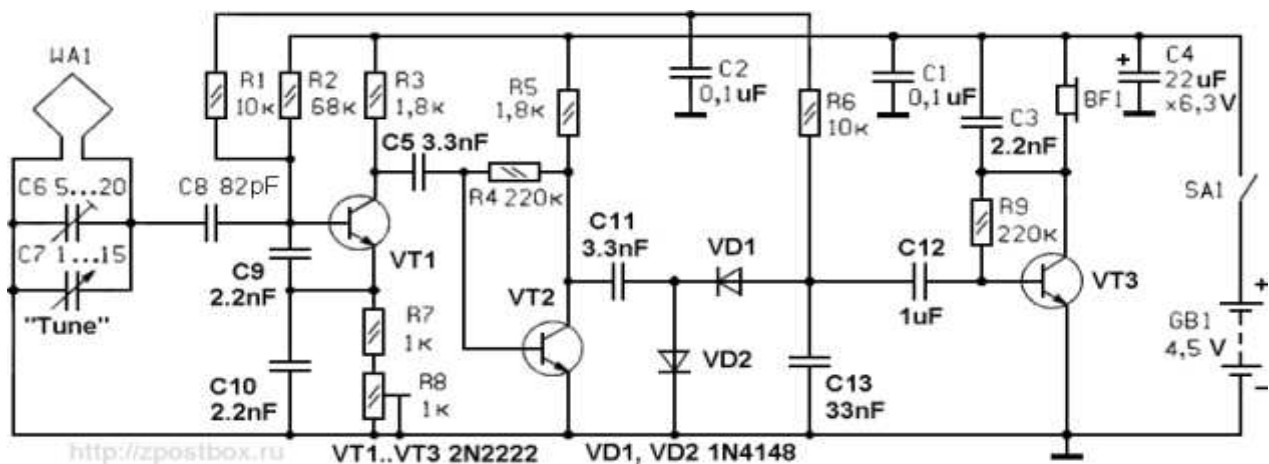

Figure 1. The circuit schematic of the regenerative shortwave receiver with automatic regeneration control.
*"This is the tuned radio frequency receiver for short wave (25 meter band, 11.7...12.1 MHz). It was created as experimental design for further experiments with the autodyne synchronous receiver (see Polyakov V. T. Autodyne synchronous regenerative receiver. - Radio, 1994, N 3, page. 10.). The circuit diagram is shown in Figure 1.*